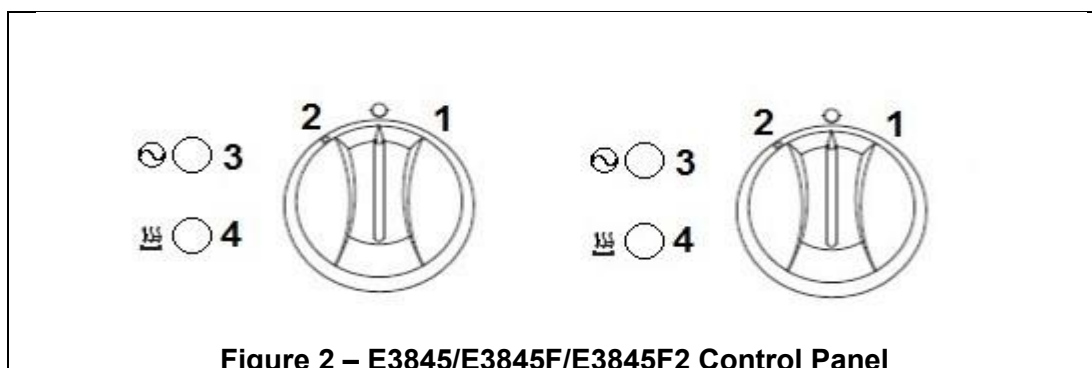

Figure 2 – E3845/E3845F/E3845F2 Control Panel
3.3.1 E3845/E3845F/E3845F2 Fryer Control Panel (See Figure 2)